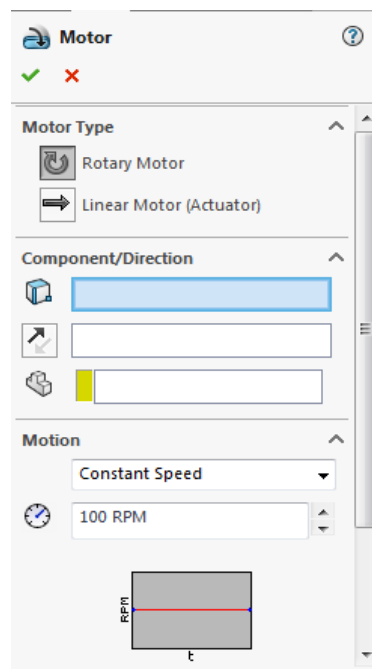

Figure 20-21 The Motor PropertyManager
1. Choose the **Motor** button from the **MotionManager** toolbar; the **Motor PropertyManager** is displayed, as shown in Figure 20-21.